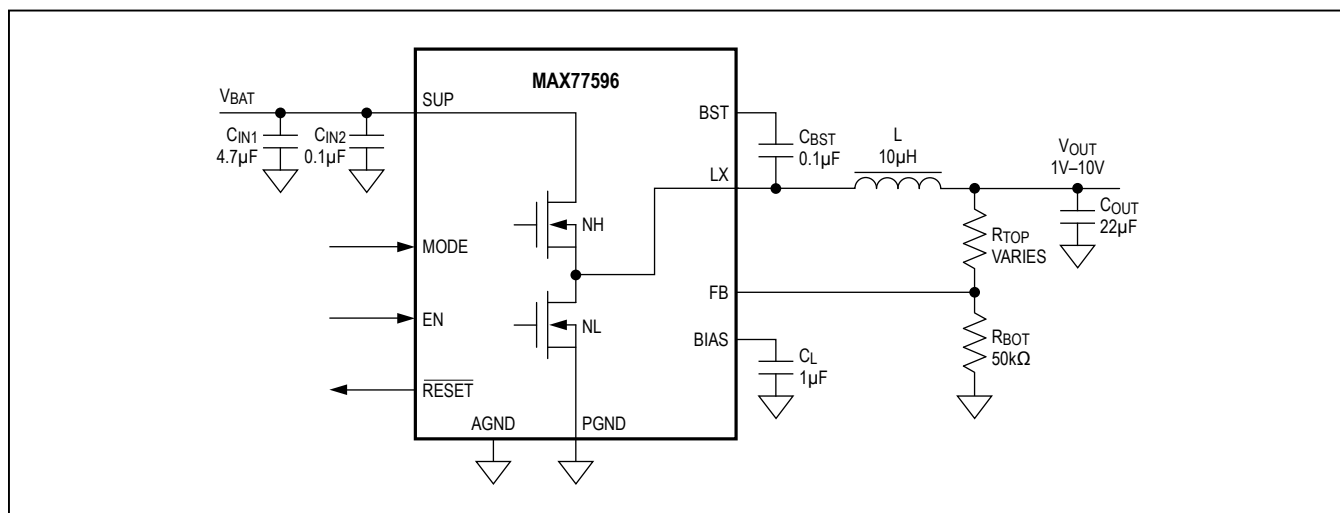

Figure 3. MAX77596ETBC+, Variable Output Voltage, 10-Pin TDFN
- 1) The input capacitor (4.7μF, see Figures 3 and 4) should be placed immediately next to the SUP pin of the device. Since the device operates at 1.7MHz switching frequency, this placement is critical for effective decoupling of high-frequency noise from the SUP pin.